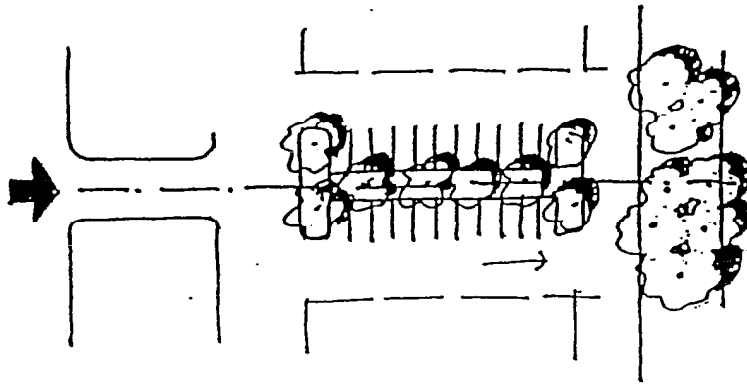

Figure 21
- ❑ *Provide, whenever possible, shared driveways serving two adjacent properties. Locate landscaping along the common property line and at the end of any shared parking area to provide visual interest at the entry (Figure 21).*